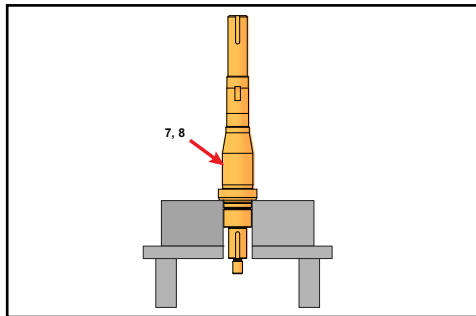

Figure 51 - Grease Shaft
1. Lubricate the front bearing area of the shaft (Figure 51, item 7, 8) with oil or grease. Place it upright in a hydraulic press with the liquid end down.